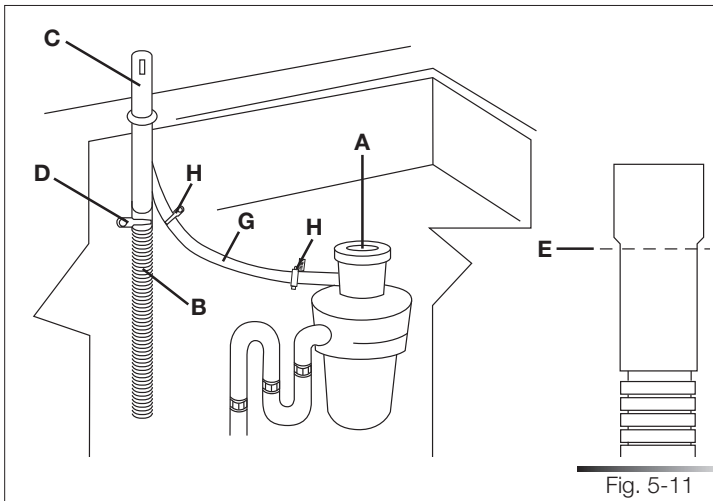
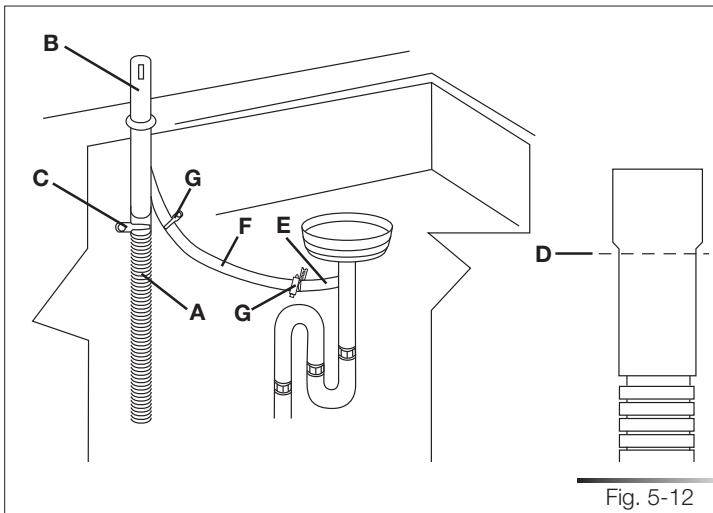

Fig. 5-11
Fig. 5-12
1. Remove the cover of the waste disposal unit (ref. A fig. 5-11).
2. Connect the dishwasher drain hose (ref. B fig. 5-11) to the air gap (ref. C fig. 5-11) using the wide spring clamp (ref. D fig. 5-11); if necessary, cut the end of the dishwasher drain hose (ref. E fig. 5-12) (do not cut the corrugated section). If the drain hose has been cut, use a 38 to 50 mm (1-1/2 to 2") screw clamp*.
3. To connect the air gap (ref. C fig. 5-11) to the waste disposal unit inlet (ref. F fig. 5-11), use a rubber union* (ref. G fig. 5-11) with spring or screw clamps* (ref. H fig. 5-11).
1. Connect the dishwasher drain hose (ref. A fig. 5-12) to the air gap (ref. B fig. 5-12) using the wide spring clamp (ref. C fig. 5-12); if necessary, cut the end of the dishwasher drain hose (ref. D fig. 5-12) (do not cut the corrugated section). If the drain hose has been cut, use a 38 to 50 mm (1-1/2 to 2") screw clamp*.
2. To connect the air gap (ref. B fig. 5-12) to the "T" union (ref. E fig. 5-12) of the drain line, use a rubber union* (ref. F fig. 5-12) with spring or screw clamps* (ref. G fig. 5-12).